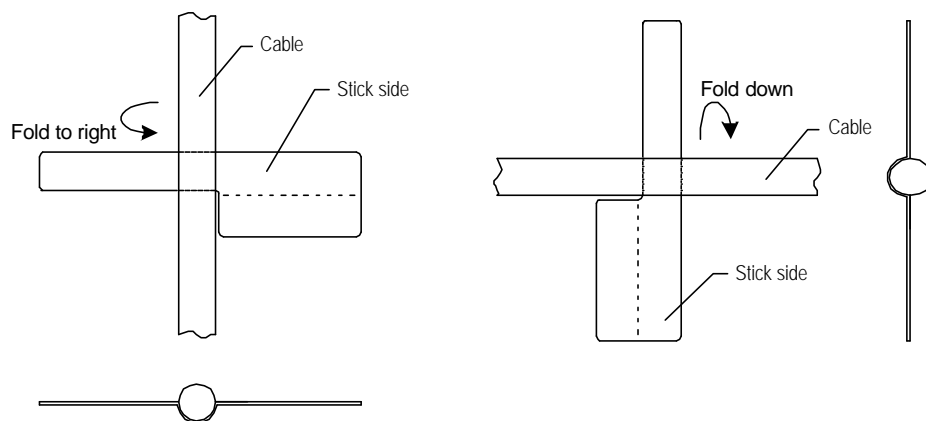
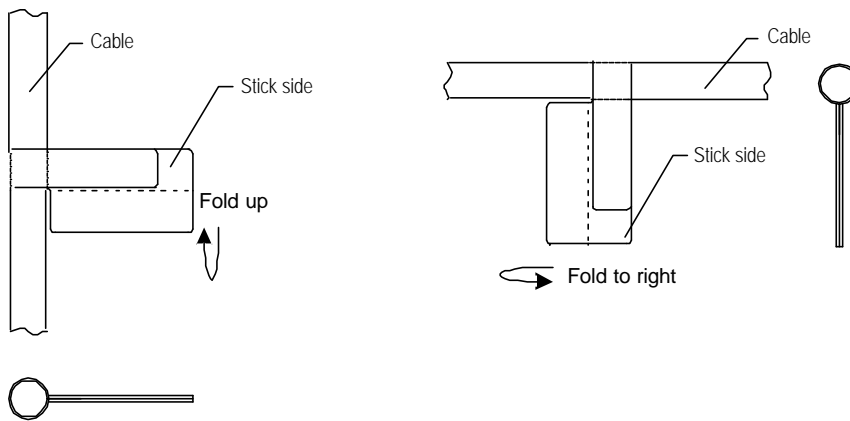
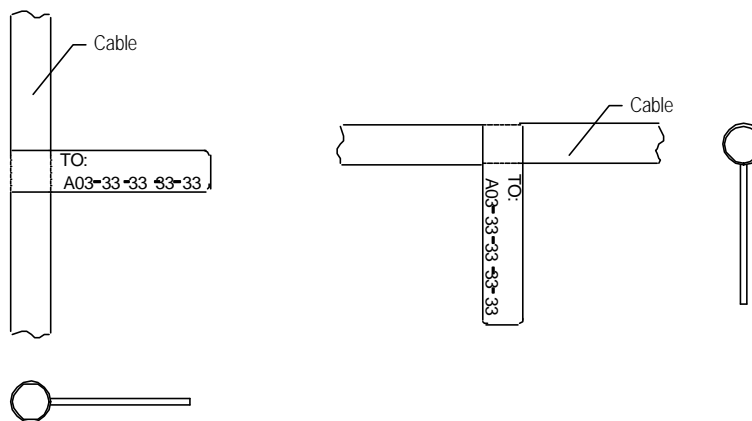

Figure E-5 Sticking the label onto proper position of the signal cable
Figure E-6 Folding up the label
Figure E-7 Appearance of affixed labels on signal cables
The steps to affix the label to the cable are shown in Figure E-5, Figure E-6 and Figure E-7. The finished labels should be on the right or top of the cables, according to different cabling methods. The left part of the figures shows the method to affix the label when the cable is laid vertically, while the right part of the figures shows the method to affix the label when the cable is laid horizontally.
- 1) Stick the label to the proper position on the cable, fold the narrow part of the label according to the directions shown in Figure E-5.
- 2) Fold the printed part along the dotted line according to the directions shown in Figure E-6.
- 3) After the printed part of the label has been folded up, the narrow part of the label should be covered completely, as shown in Figure E-7.